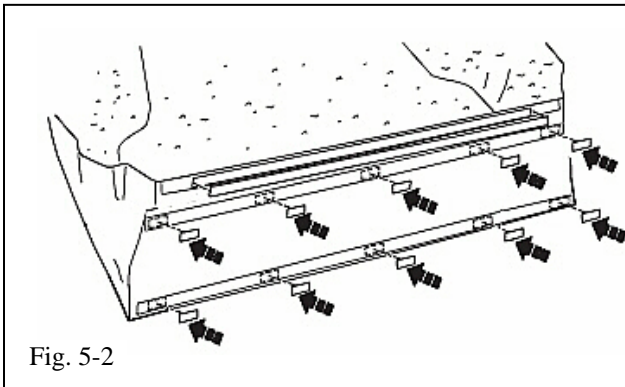

Fig. 5-2
- (b) Attach 1" X 60" and 1" X 2" hook to the bed liner bulkhead area facing the front as shown. Trim excess from 1" X 60" strip where necessary. **Do not remove adhesive protective film at this time.** (Fig. 5-2)